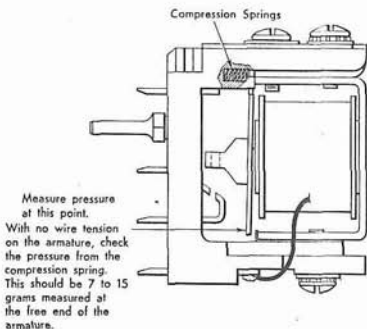

Figure 17
2. Figure 17. With no wire tension on the armature, check the pressure exerted by the compression spring. This should be 7 to 15 grams, measured at the free end of the armature.